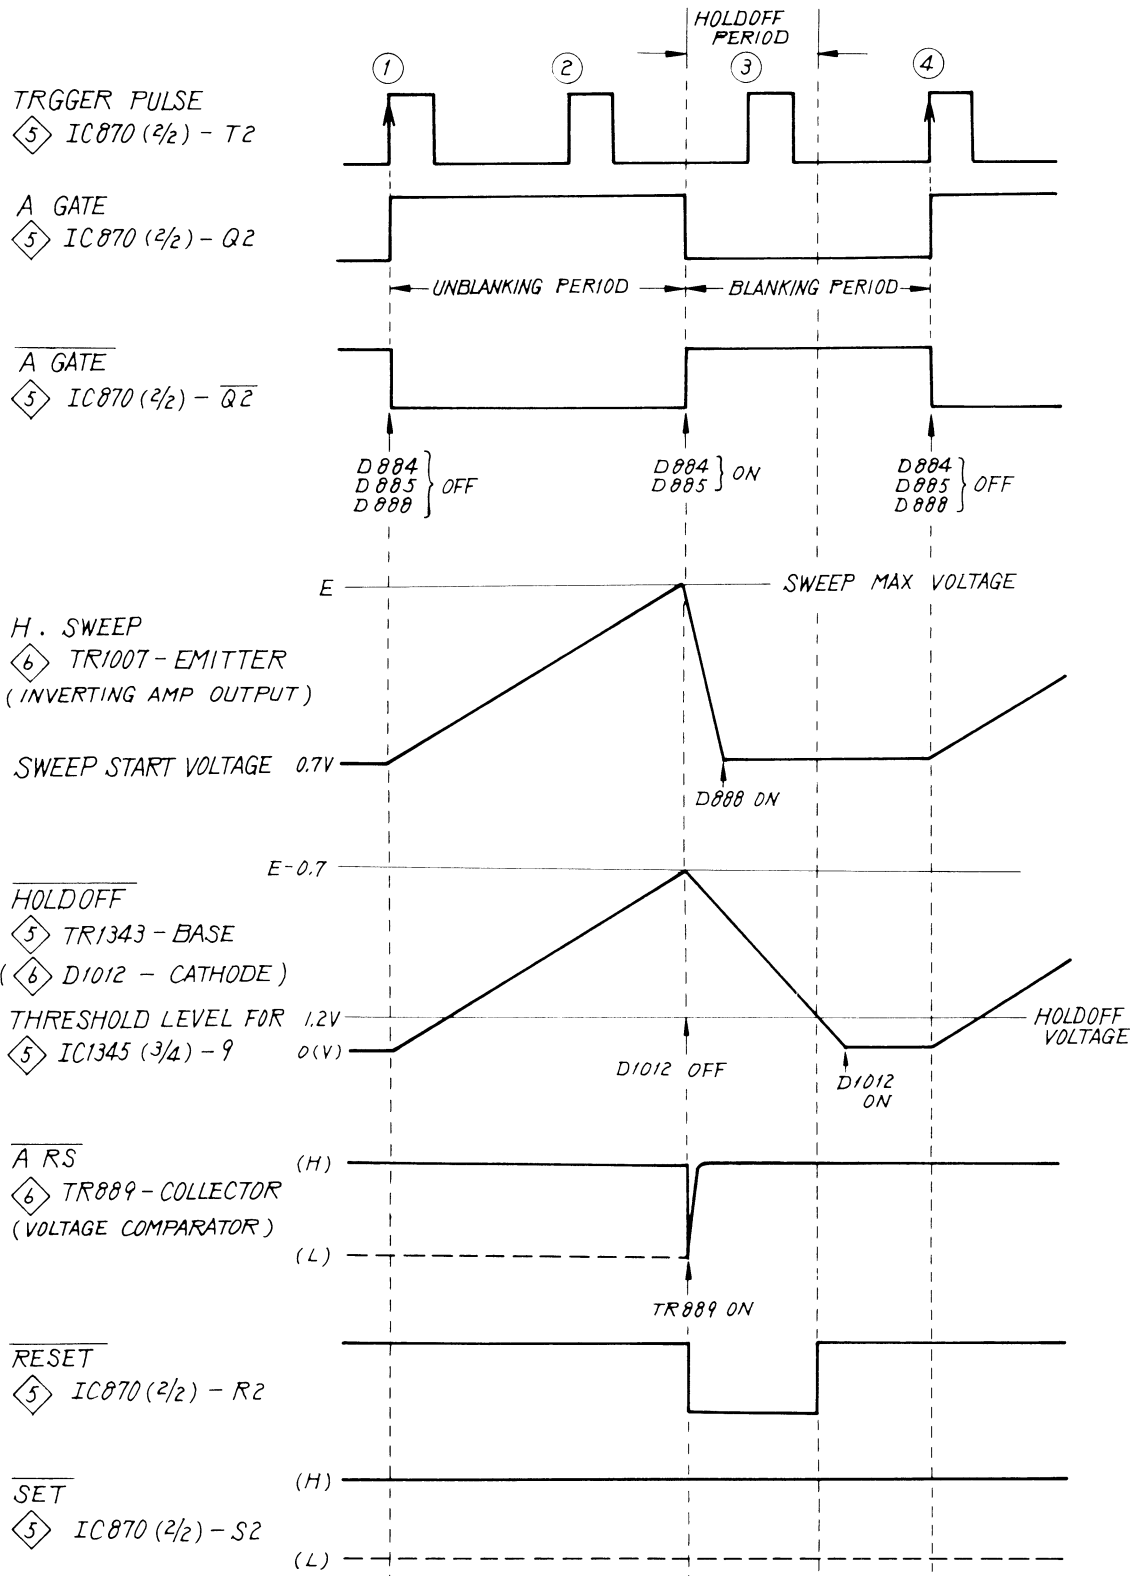
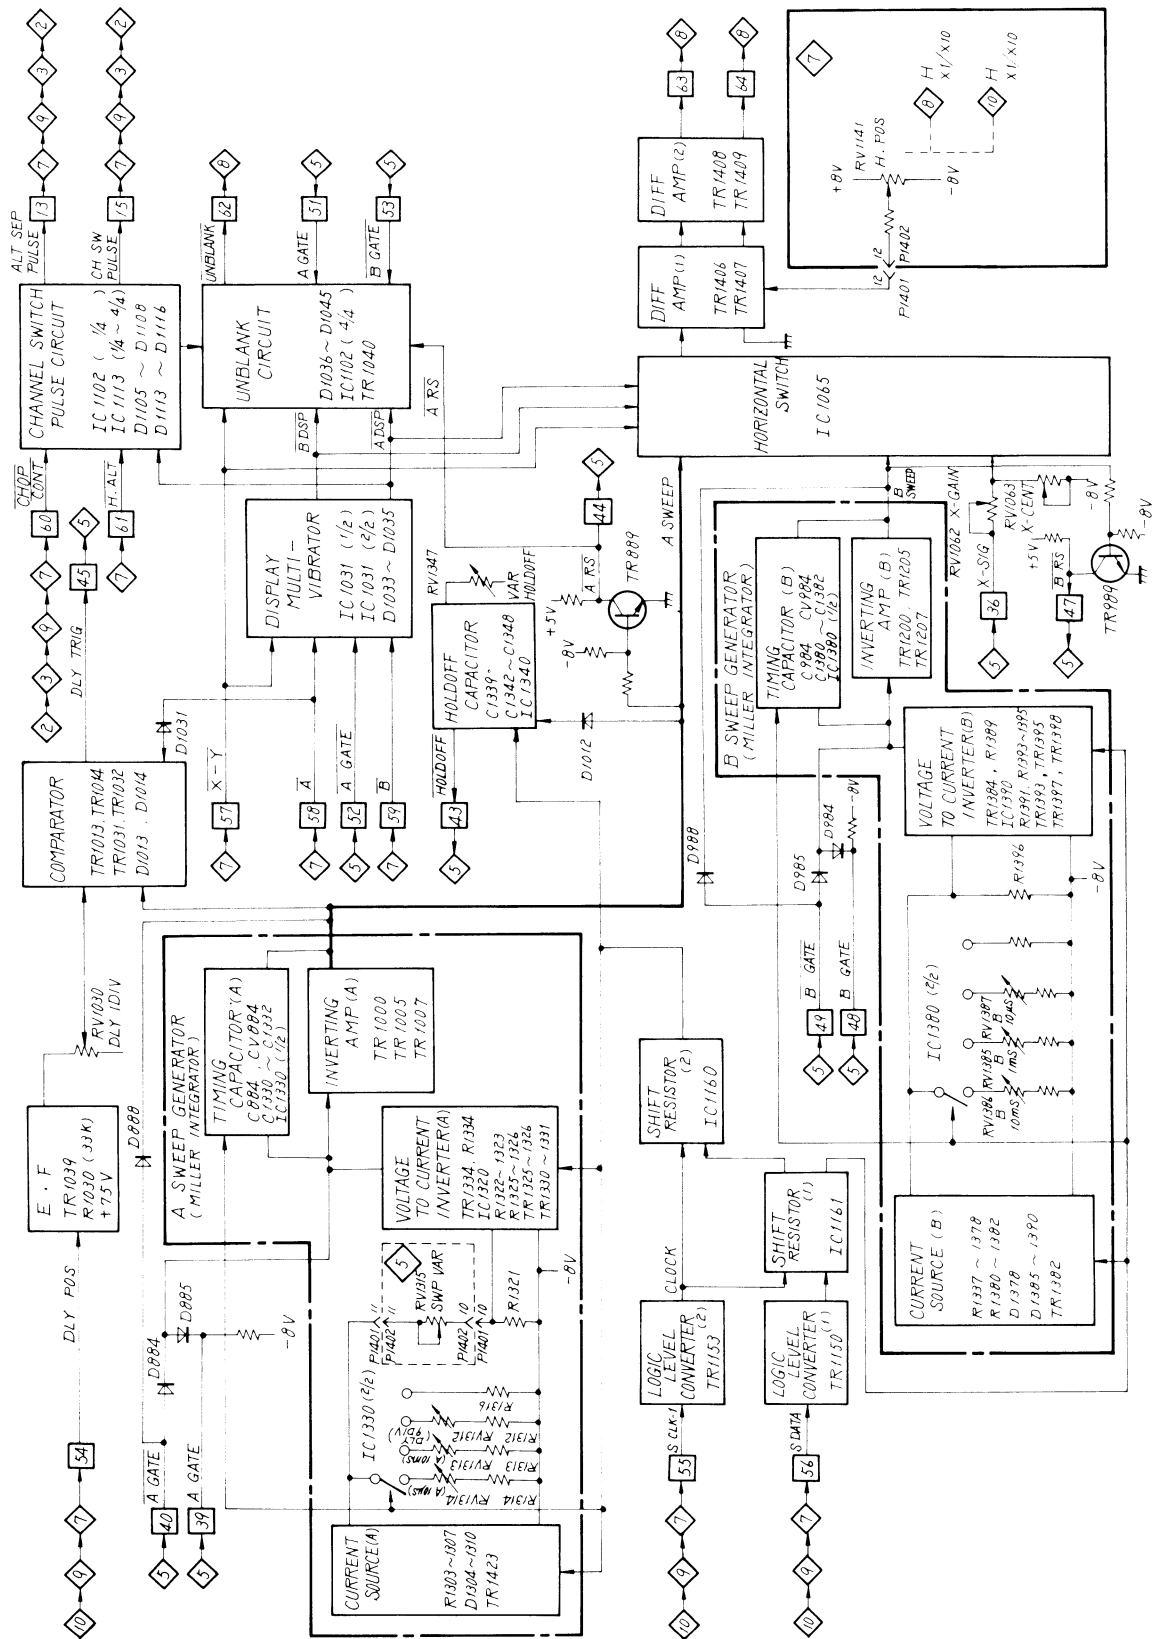
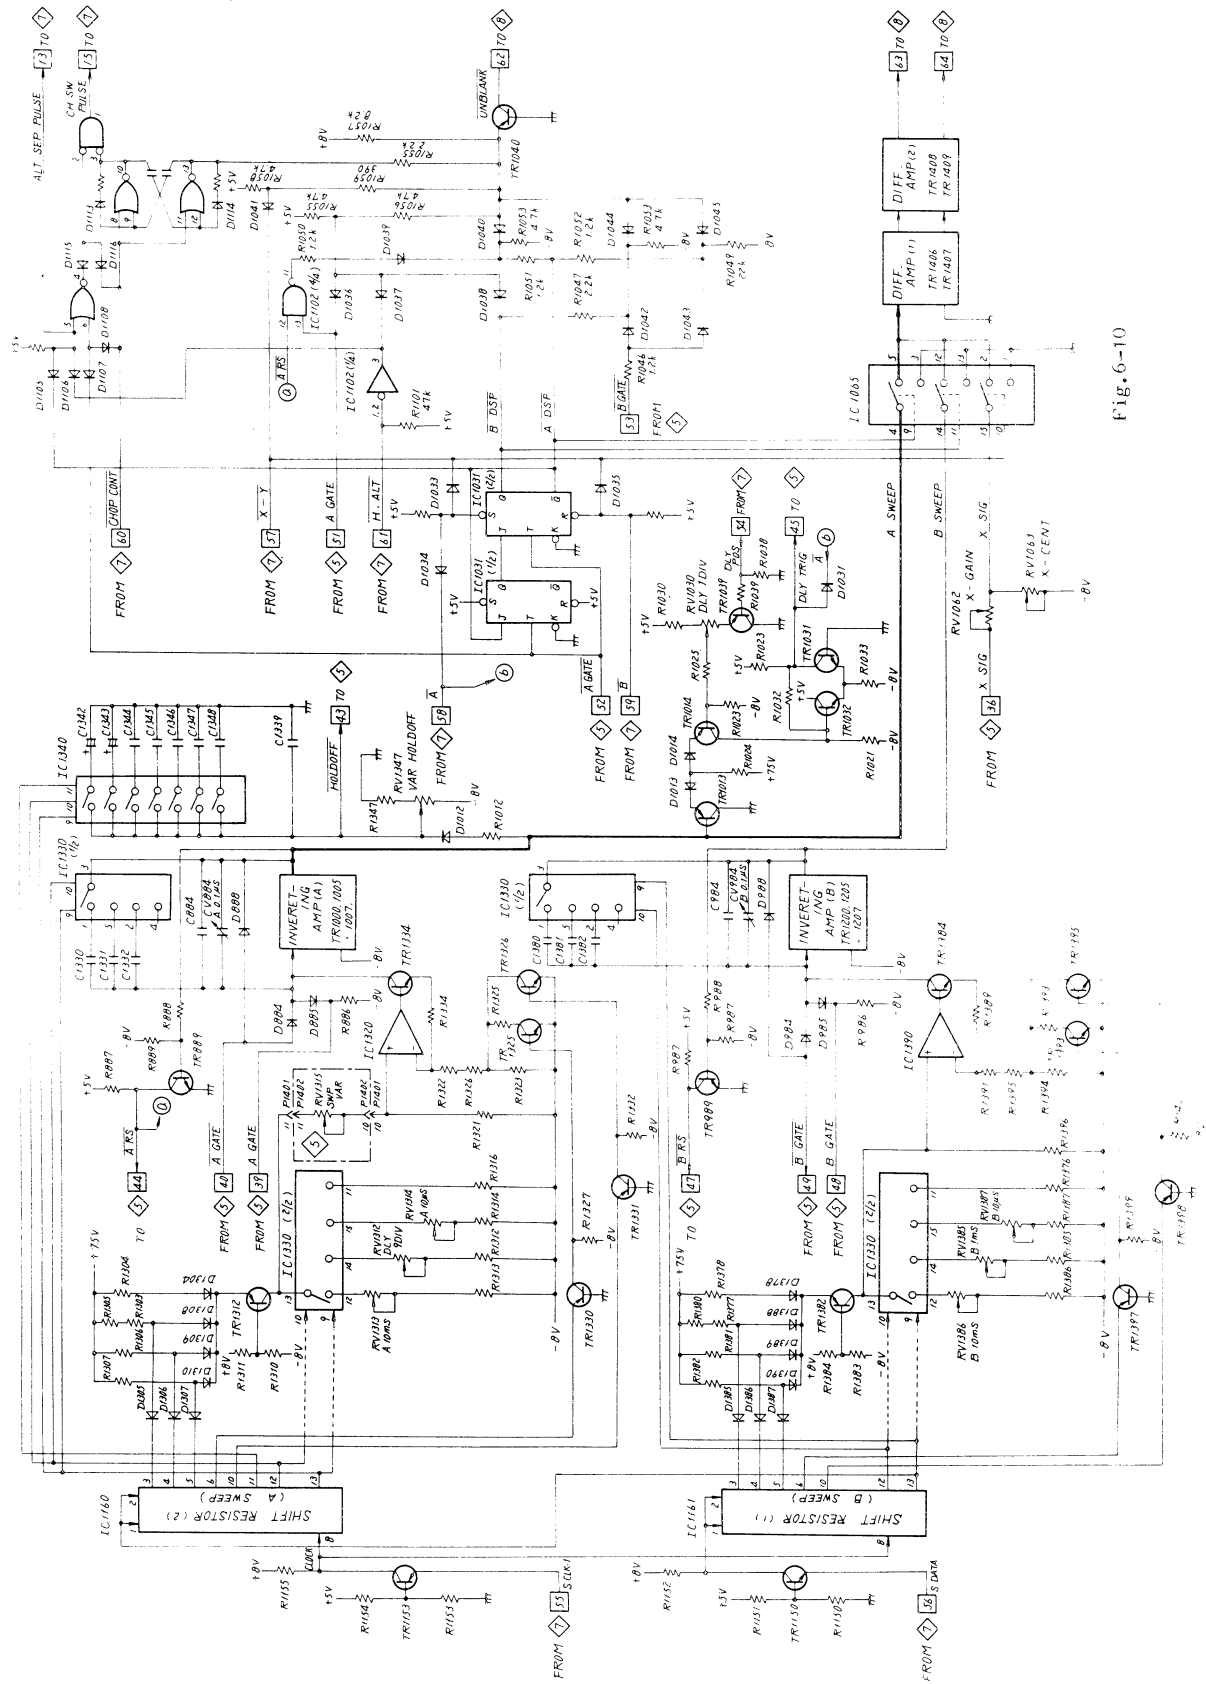

Fig.6-11
Fig. 6-9
Fig. 6-10
6.6 \diamond A/B SWEEP GENERATOR (2) (PEF-712)
Figure 6-9 is a detailed block diagram of the A/B SWEEP GENERATOR (2). Figure 6-10 is a schematic diagram illustrating the information necessary for understanding the operation of this circuit. Waveform examples are shown in Figure 6-11.
The A SWEEP GENERATOR and the B SWEEP GENERATOR are shown with alternate a long and short dash lines in Figure 6-9. They are Miller integrator circuits, by which a sawtooth wave with good linearity can be obtained. When a sweep operation starts, the A GATE signal from $\boxed{39}$ is changed from "L" to "H" and the $\overline{\text{A GATE}}$ signal from $\boxed{40}$ is changed from "H" to "L". When the $\overline{\text{A GATE}}$ signal becomes "L", D884, D885, and D888 become off.
COMPARATOR (See Figure 6-9.)
CHANNEL SWITCH PULSE CIRCUIT (See Figure 6-9.)
(See Figure 6-9.)
SHIFT RESISTOR (See Figure 6-9.)
$\overline{A RS}$ and $\overline{B RS}$ signals (See Figure 6-9.)